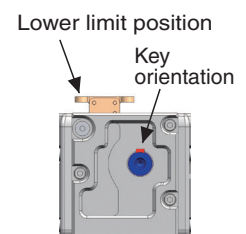

Figure 3
13. If the ZCA is installed using the bottom surface of the drive section, then the keyway of the input shaft will face almost perfectly upward at the stroke lower limit (see Figure 3). However, if synchronized a small amount of displacement will occur due to individual differences in backlash and so on. To prevent this, separately install a mechanism that adjusts phase.